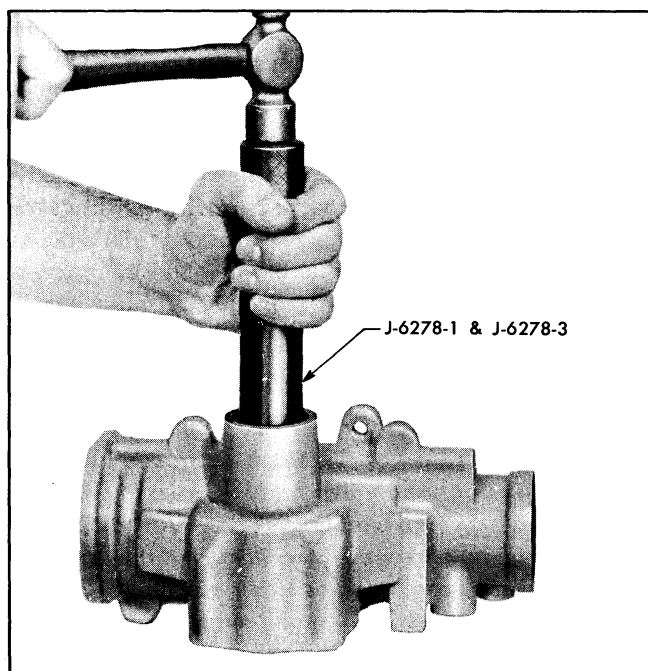

Fig. 9A 22 Installing Pitman Shaft Needle Bearing
1. With stamped end of needle bearing against shoulder of adapter J-6278-3, use Remover and Replacer J-6278-1 to drive pitman shaft needle bearing into bore from outside of housing until flush-to- $\frac{1}{32}$ " below shoulder. Make sure needle bearings rotate freely (Fig. 9A-22).